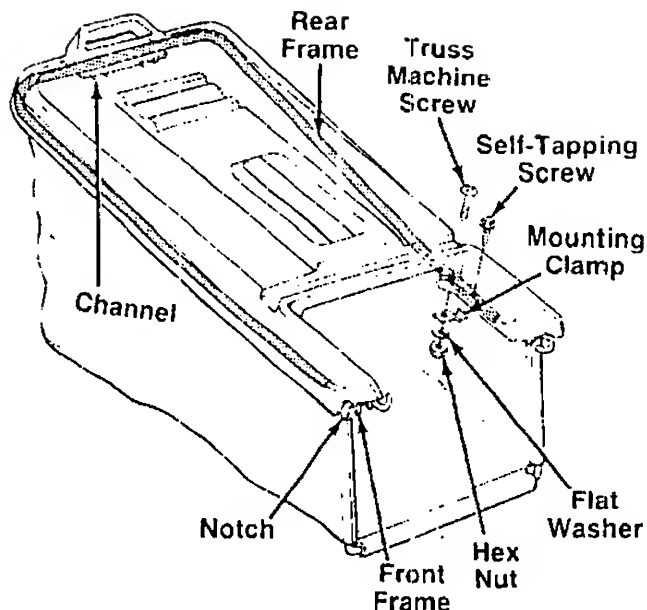

FIGURE 12.
4. Attach the hardtop cover to the grass catcher as follows. See figure 12.
- Attach cover to frame using self-tapping screws as shown in figure 12.